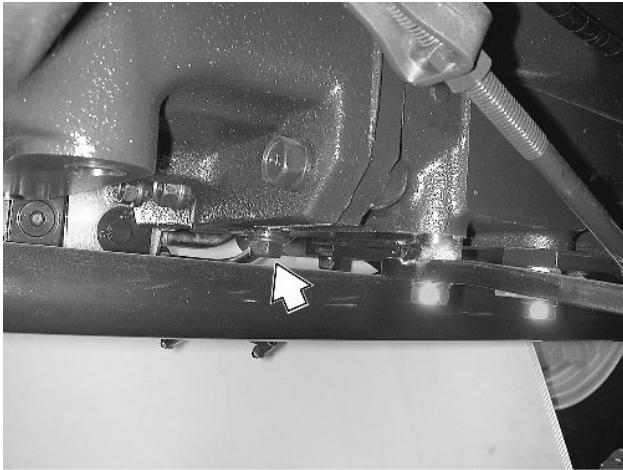

Figure 56 - Transmission and Rear Axle Center Housing - Oil Drain Plugs
1. With the oil at normal operating temperature, drain and discard the oil by removing the transmission, rear axle center housing drain plugs, Figure 56. Reinstall the plugs after the oil has drained. Discard the oil.